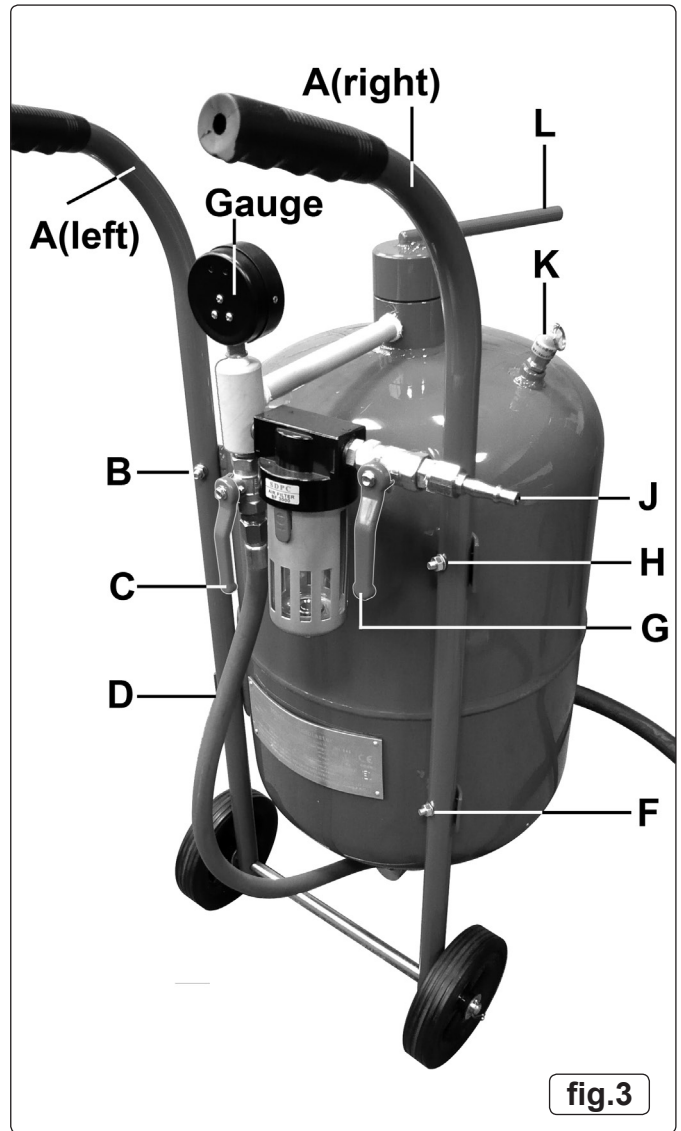

fig.3
- 5.1.2. There is a specific left hand and a specific right hand handle as the mounting holes in them are at different angles. When correctly fitted the two handles should be parallel. Referring to fig.3, loosely attach the two handles (A) onto the fixing brackets (B, D, F & H) using the nuts, bolts and washers provided. Do not tighten yet.
- 5.1.4 Now tighten the nuts and bolts at the four handle mounting positions. (B, D, F & H in fig.3).